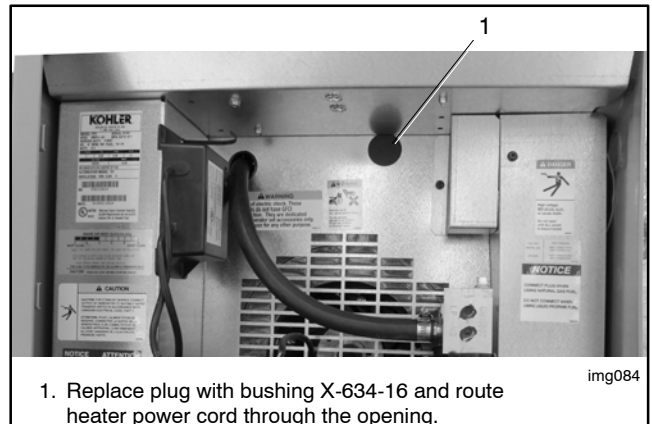

Figure 18 14RES Air Intake End
- For Model 14RES, see Figure 18. Replace the plastic plug with bushing X-634-16. Route the heater cord through the opening.